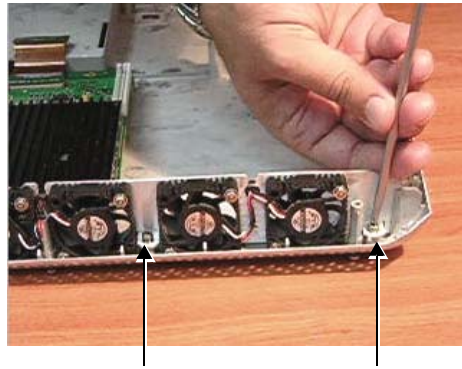

Figure 8-39 Removing the Screws from the Fan Assembly
- 7) Unscrew and remove the four screws that secure the BEP to the Bottom Assembly as shown in Figure 8-39 below.
- 8) Using both hands, lift the BEP out of the Bottom Assembly and remove it from the system, as shown in Figure 8-39 below.
- 2) Unscrew and remove the two screws that secure the Fan Assembly to the Bottom Assembly as shown in Figure 8-39 below.
- 3) Make sure the Fan Assembly is seated in the correct position. Return and fasten the two screws (previously removed) to secure the Fan Assembly to the Bottom Assembly, as shown in Figure 8-39 on page 8-41 .